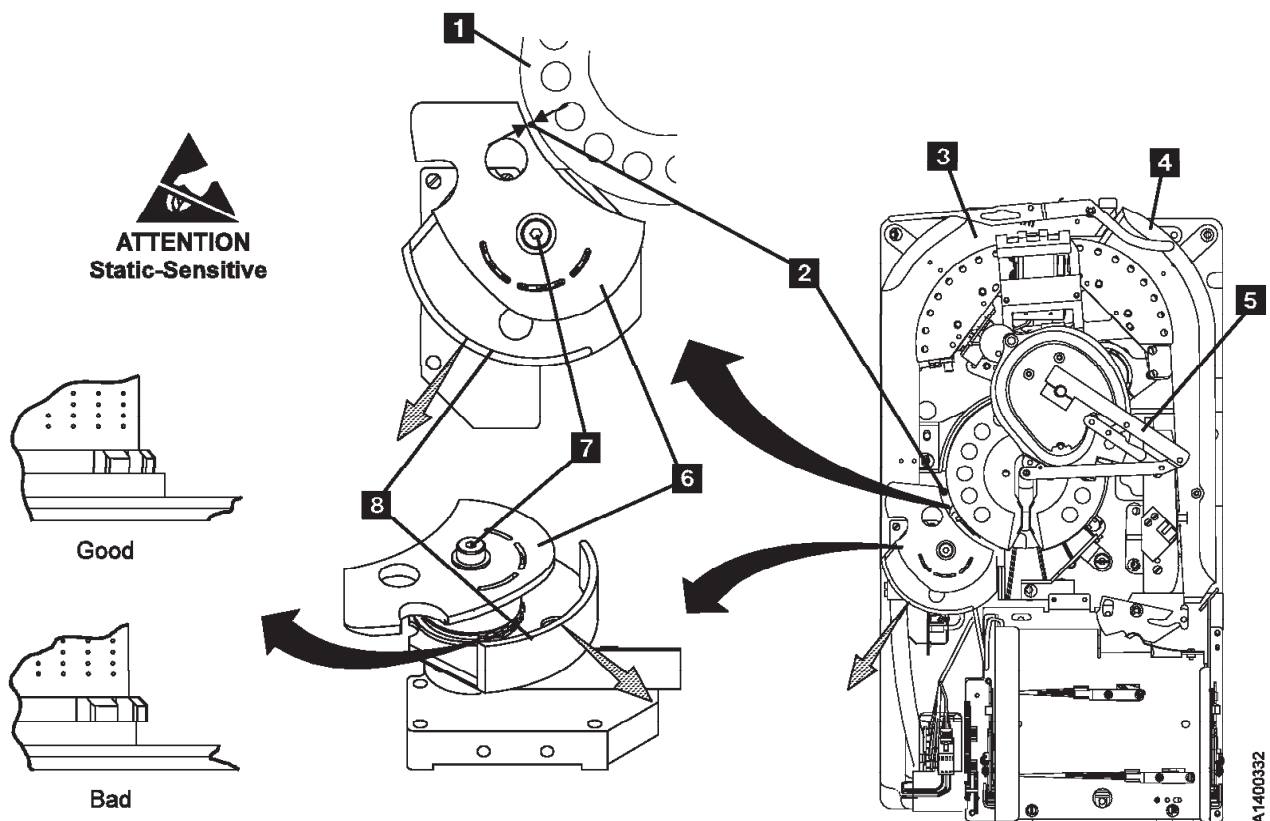

Figure 10-56. Tension Transducer Plastic Shield
2. See Figure 10-56.
See Figure 10-56 on page 10-82.
3. Ensure that the first four teeth on the lower ceramic guide do not extend beyond the top edge of the inner hub of the black plastic guide **8**. See the **Good** and **Bad** illustrations in Figure 10-56 on page 10-82.
- b. Move the lower black plastic guide **8** outward along a line that runs from the center of the pantocam through the center of the tension transducer. See the grey shaded arrows in Figure 10-56 on page 10-82.
**Note:** You should be able to move the lower black plastic guide so that all or most of the ceramic teeth do not extend beyond the top edge of the inner hub of the black plastic guide. See the **Good** and **Bad** illustrations in Figure 10-56 on page 10-82. The most important area is the first four teeth that the leader block will pass on a load operation.
- h. Check again to ensure that the teeth on the lower ceramic guide do not extend beyond the top edge of the inner hub of the black plastic guide. See the **Good** and **Bad** illustrations in Figure 10-56 on page 10-82.